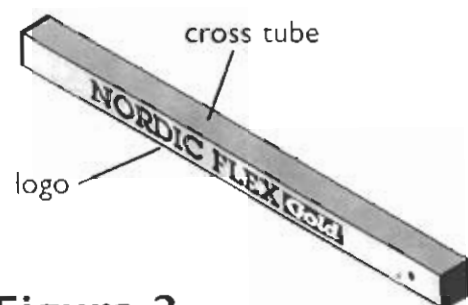
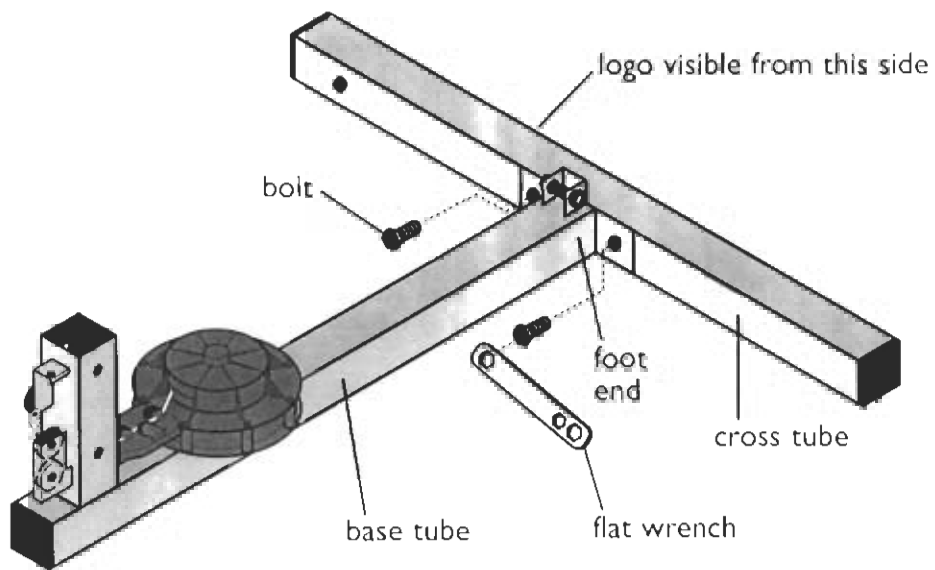

Figure 2
Figure 3
2. Lay the cross tube (Figure 2) on the floor at the foot end of the base tube so that it is perpendicular to the base tube (Figure 3). The foot end of the base tube is the end farthest from the isokinetic resistance mechanism. The NordicFlex Gold® label on the cross tube will face away from the base tube — be sure the lettering is upright.
4. Insert two of the bolts into the holes (Figure 3).